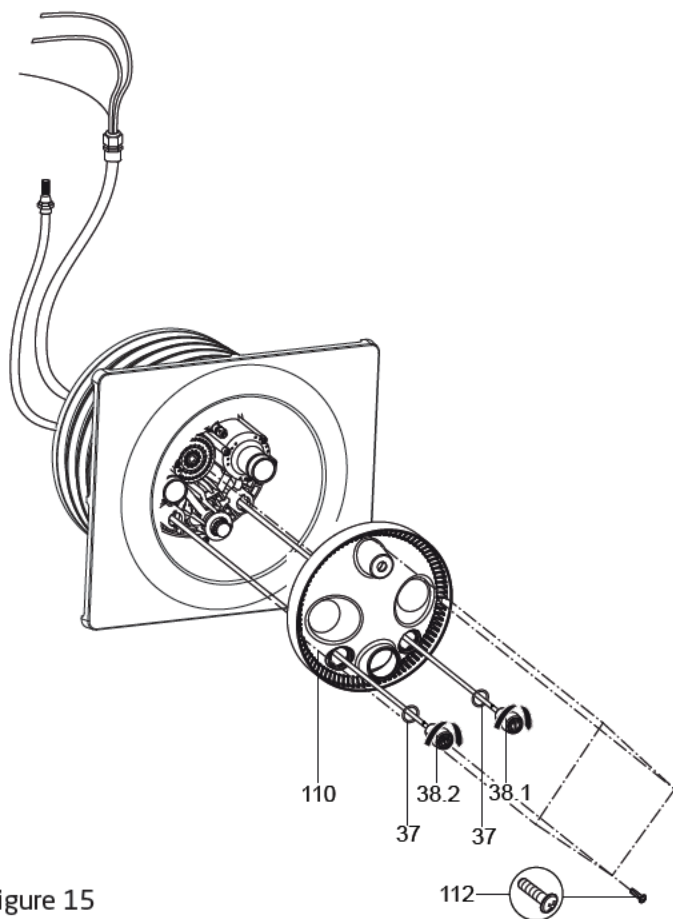

Figure 15
9. Align the light cover (part# 110) with the nozzle housing and secure with four (4) light cover tapping screws (part# 112). (See Figure 15) *NOTE: Light ON/OFF button is on the left and the pump ON/OFF button is on the right.*